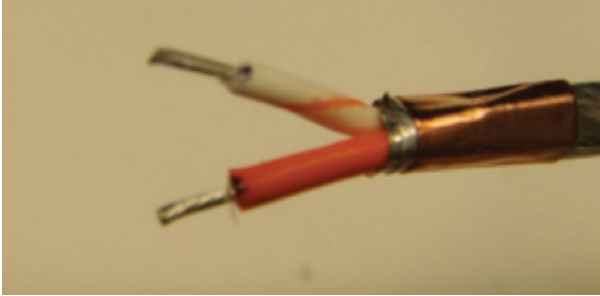

Figure 54: Stripping primary
- Using 26-gauge hand strippers, strip each primary (Figure 54). If necessary re-tin the primary ends.